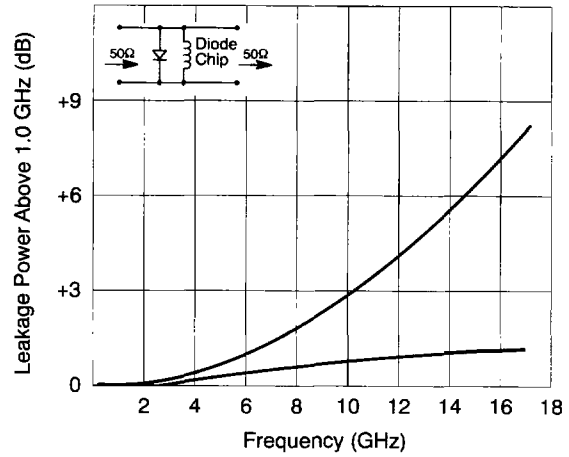
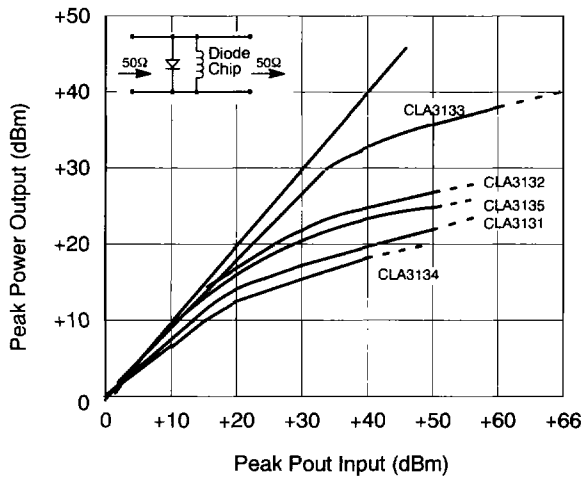

Figure 12. Leakage Power vs. Frequency
Figure 11. Typical Peak Leakage Power at 1 GHz
- Threshold input power produces 1 dB increase in insertion loss. Figure 11 shows typical leakage power curves. Data taken for 1.0 GHz. Figure 12 shows typical variation with frequency. Note especially the roll-off of CLA3133 at higher frequency.